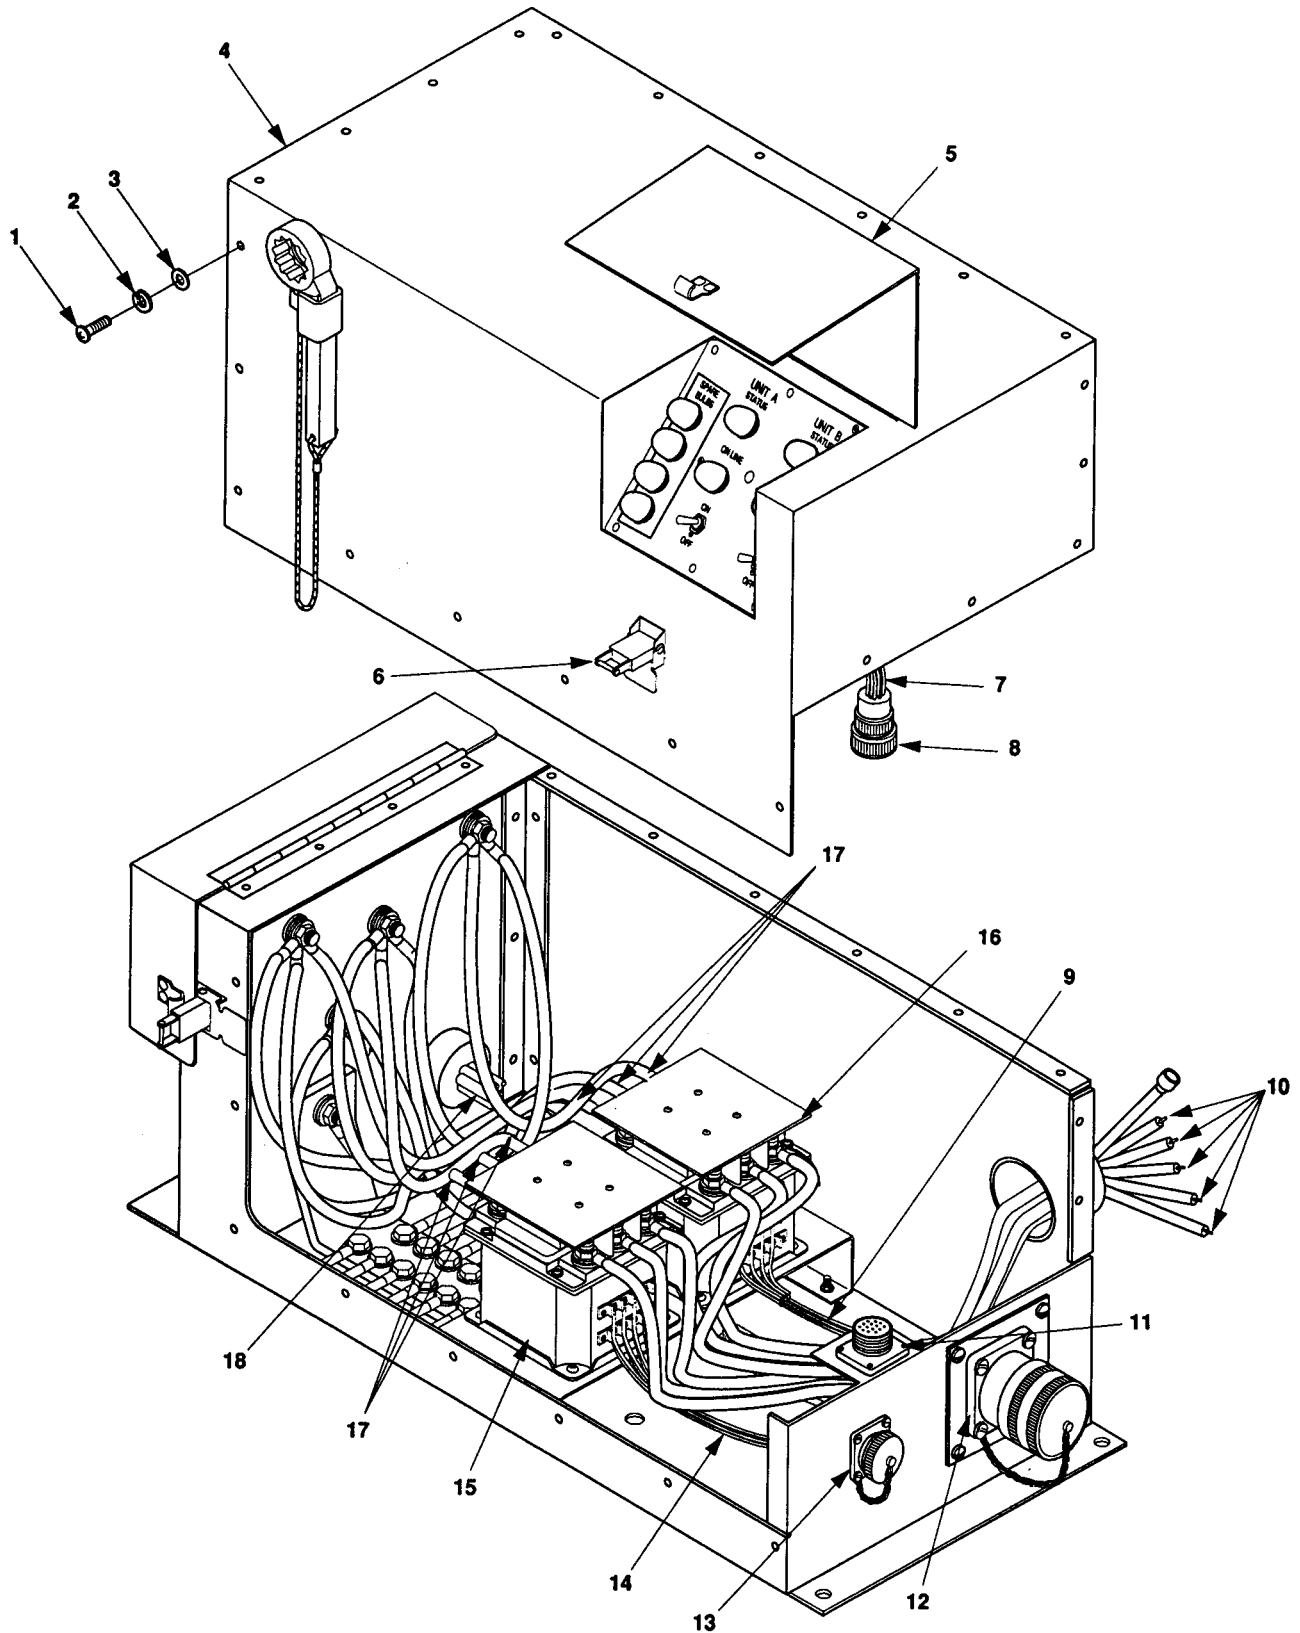

Figure 5-11. Switch Box Assembly Test.
- a. Remove 21 screws (1, figure 5-11), flat washers (3), and lock washers (2) that secure the switch box access cover (4) to the switch box assembly.